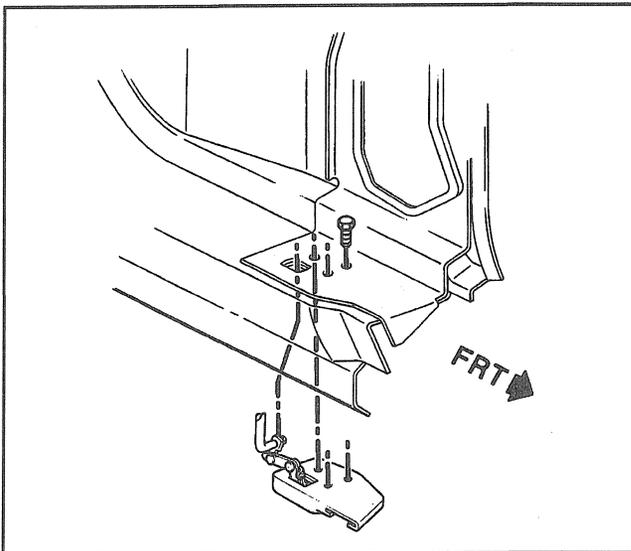

Figure 45—Lower Latch Assembly.
**Remove or Disconnect (Figure 45)**
**Install or Connect (Figure 45)**